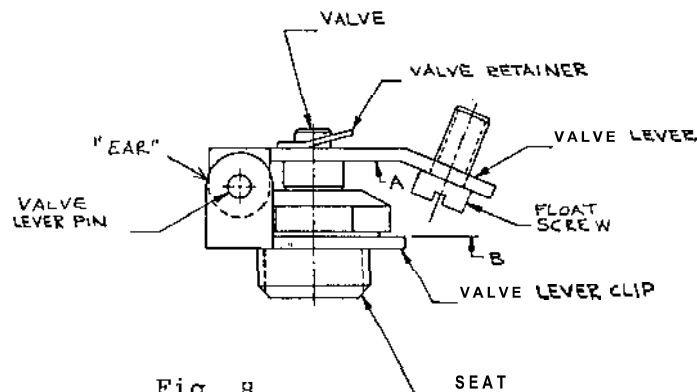

Fig. 8.
8. Check the seating of the valve. The point of the cone valve should easily drop into the orifice with no hang-up on the edges of the orifice. When the valve is shut, the valve lever should be visually parallel to the valve lever clip. **(See Figure 8)** Adjustments maybe made to the front or back of the lever pin ears by tapping VERY LIGHTLY with a SMALL HAMMER.